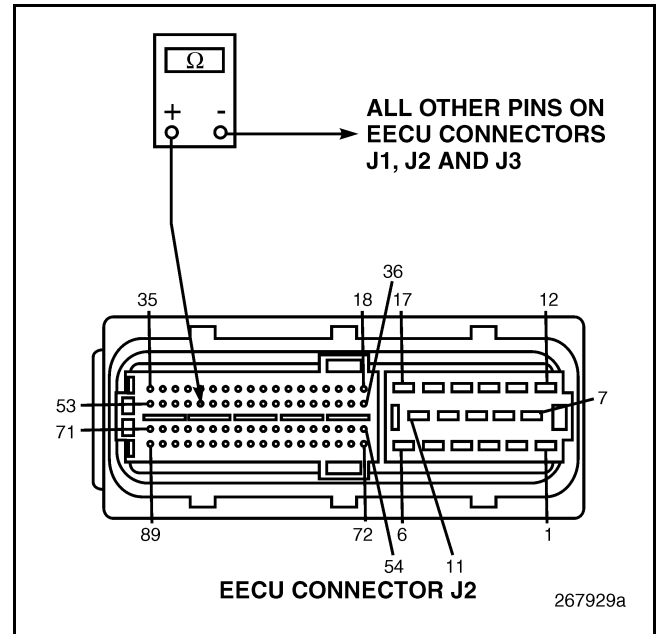

Figure 190
4. Check for continuity between EECU harness connector J2 pin 49 (ground line) and all other pins in EECU harness connectors J1, J2, and J3 (see Figure 190).